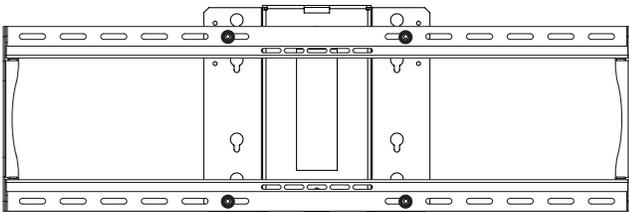

fig. 9.1
Secure universal screen bracket (S) to adapter box (G) using four M6 x 12 socket pin serrated washer head screws (J) through 1/4" x .062 flat washers (N) using mounting patterns shown in fig. 9.1.